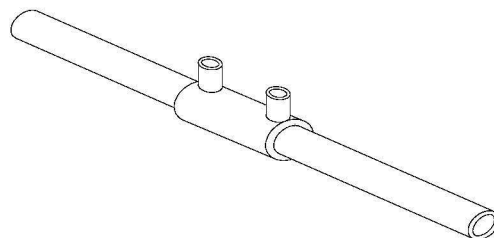

Figure A14 - Completed joint
8. Disconnect the terminal leads from the fitting, allow the joint to cool for the time stated on the fitting prior to removing the alignment clamp. (Figure A14).